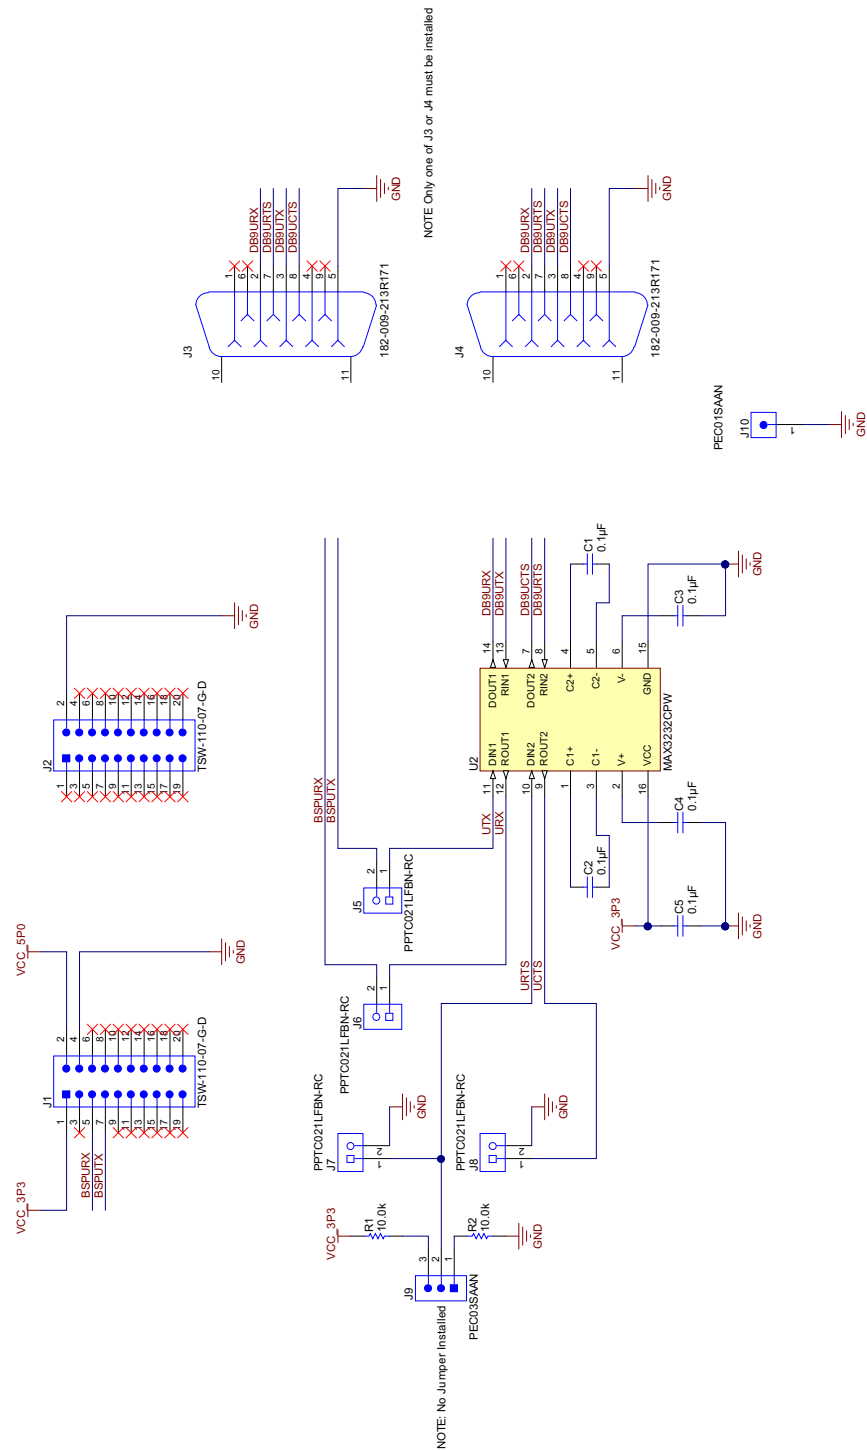

Figure 7. Schematic of RS-232 Level Shifter
- For 3.3 V VCC and GND, connect J1.1 and J1.4 on the schematic shown on Figure 7 to the following items, respectively:
- Connect J3 (or J4) on the schematic shown in Figure 7 to a male-male DB9 cable. The other end of the DB9 cable goes to the PC.
Table 1 lists the connections from the schematic depicted in Figure 7 to either the EK-TM4C1294XL or DK-TM4C129X boards to achieve RS232 level shifting of the UART signals. The UART signal name is also mentioned in this table along with the Serial-To-Telnet port number that is used by the *enet_s2e* application.